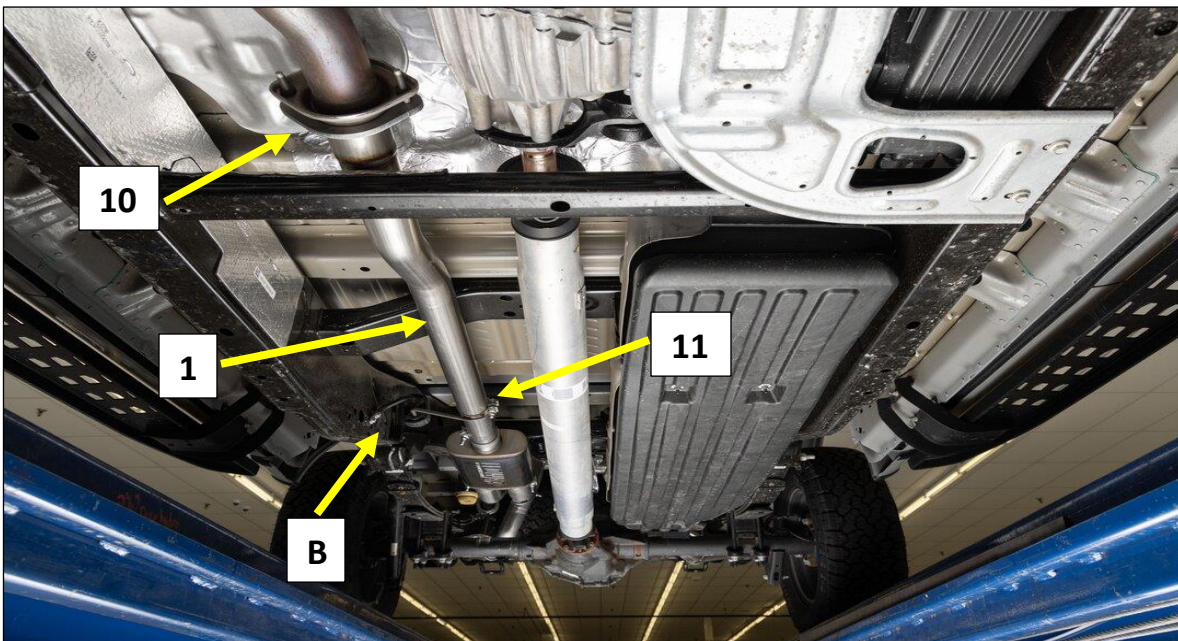

Figure 7
3. Install the 2-bolt flange (10) on to the muffler inlet pipe (1) with the machined edge towards the flare. **Fig. 7**
4. Install the muffler inlet pipe on to the Y-pipe using the bolts removed from the factory exhaust. **Fig. 7**
5. Install the supplied clamp hanger (11) on to the muffler inlet pipe (1) and align with the frame hanger (B). Install the rubber isolator on to the hanger rods and tighten the clamp. **Fig. 7**